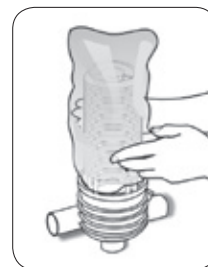

FIGURE 4
- Remove the discs. For convenience, we recommend using a plastic bag (Figure 4, 5).